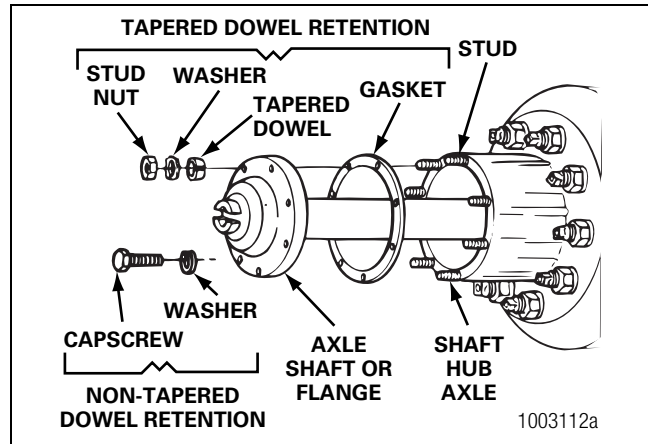

Figure 8.1
2. Remove the stud nuts or capscrews and the washers from the flange of the axle shafts. Figure 8.1.
3. Loosen the tapered dowels, if used, in the flange of the axle shaft. Refer to Section 3 and Figure 8.1.
5. Remove the tapered dowels, gasket, if used, and the axle shaft from the axle assembly. Figure 8.1.
5. Install the gasket, if used, and axle shaft into the axle housing and carrier in the same location it was removed from. The gasket and flange of the axle shaft must be flat against the hub. Rotate the axle shaft or the driveline as necessary to align the splines and the holes in the flange with the studs in the hub. Figure 8.1.